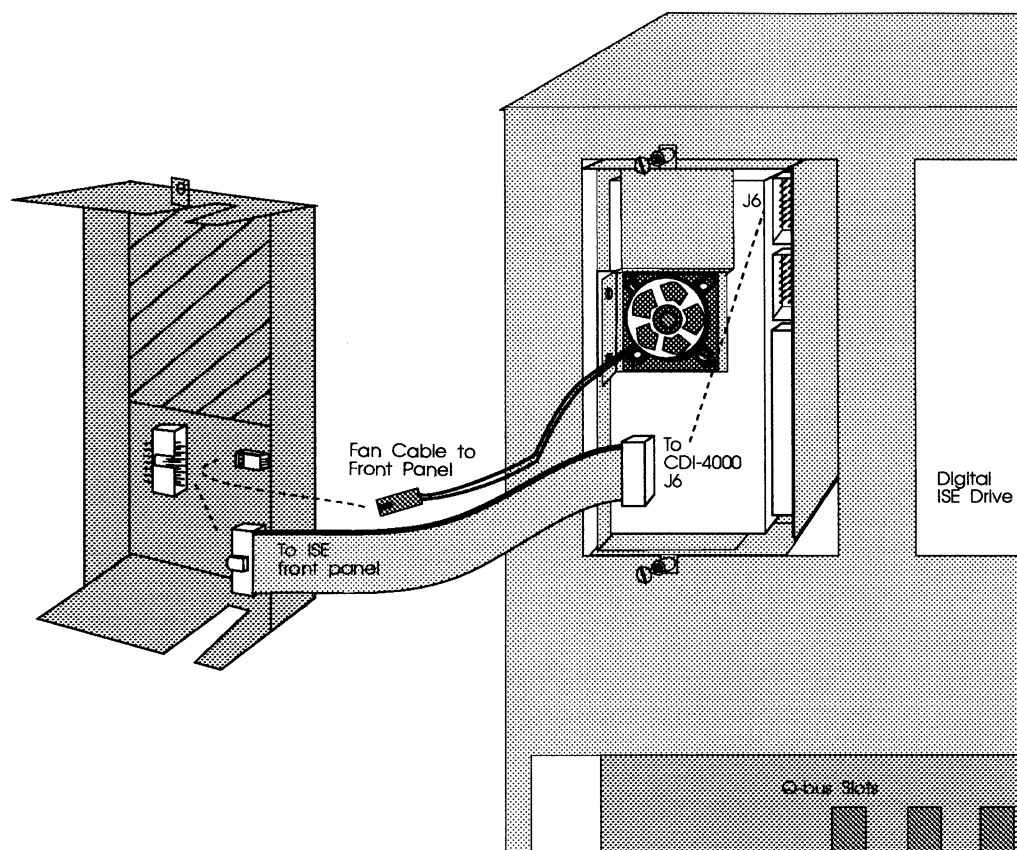

Figure 4-18: CDI-4000-SA1 front panel connections
- 12 Connect one end of the 14-pin cable to J6 of the CDI-4000 and the other end into the back of the ISE front panel display as shown in Figure 4-18.